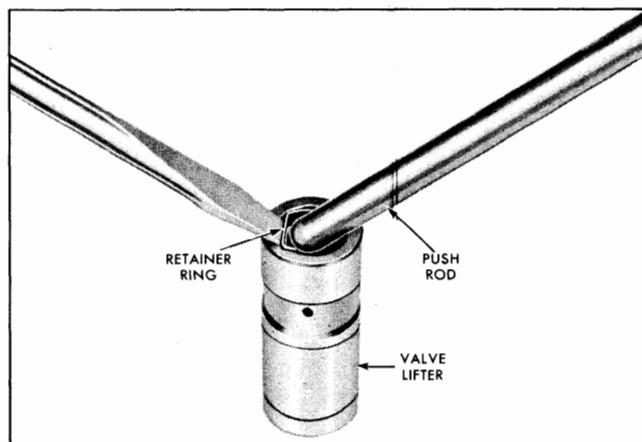

Fig. 6-26 Removing Push Rod Seat Retainer Ring
1. Remove push rod seat retainer ring by holding seat down with push rod while dislodging spring from lifter body with a pointed tool (Fig. 6-26).